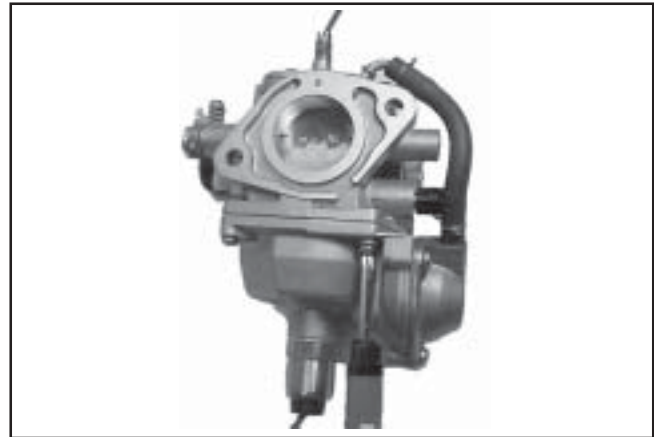

Figure 5-16. Installing Fuel Bowl.
8. When the proper float height is obtained, carefully reinstall the fuel bowl, with the O-Ring(s) in place, onto the carburetor. Secure with the four original screws. Torque the screws to $2.5 \pm 0.3 \text{ N}\cdot\text{m}$ ($23 \pm 2.6 \text{ in. lb.}$). Reattach the accelerator pump hose (if so equipped), and secure with the clip. See Figure 5-16.